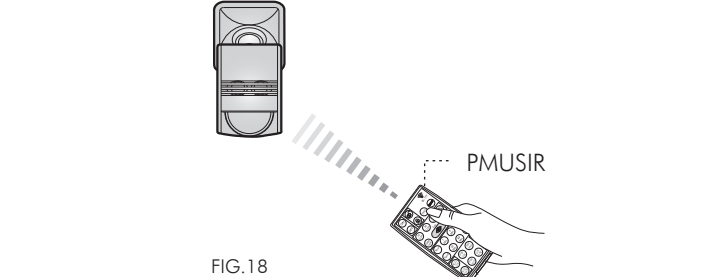

FIG.18
6.1 It is recommended to purchase our high quality IR remote controller PMUSIR for easy, convenient and safe programming on PMUSW (See FIG.18).